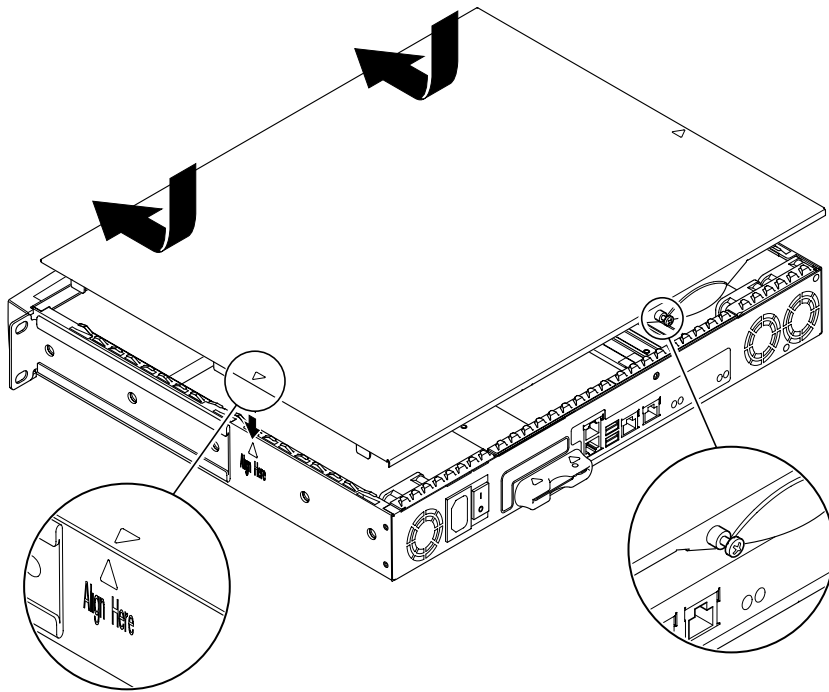

FIGURE 8-4 Replacing the Top Cover
6. **Replace the system cover and tighten the captive screw** (see FIGURE 8-4).
6. Replace the system cover and tighten the captive screw (see FIGURE 8-4).